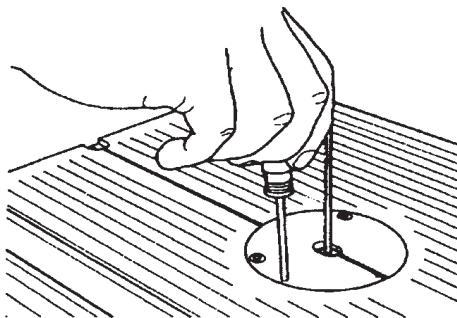

Figure A-36
- Use a very small Phillips screwdriver (96) to adjust the leveling screws (90) through holes in the insert so it is uniformly flush with the edge of the Table. See Fig. A-36.